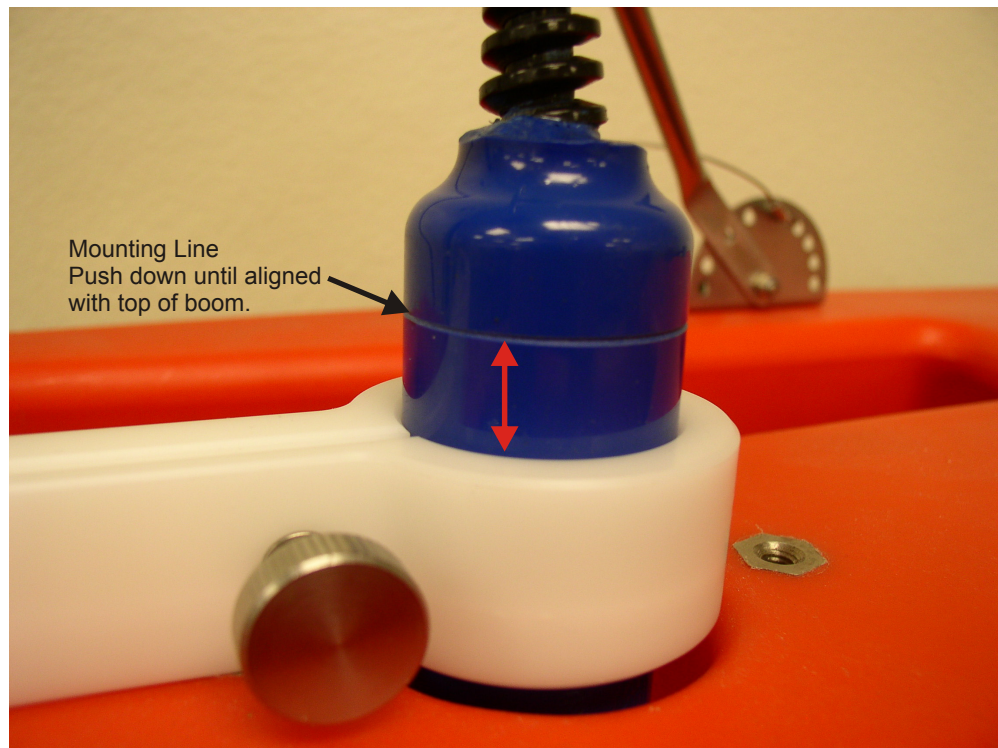

Figure 4. Transducer Adjustment for In-Hull
- b. For the in-hull position, the transducer needs to be pushed into the arm until the line is as shown Figure 4, page 10. This will ensure the transducer is recessed approximately 5mm. This helps protect the transducer; it will not be damaged if it is dragged along the ground.